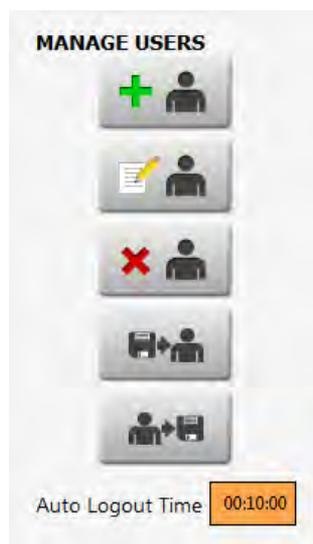

Figure 4-6 Auto Logout Time
3. Touch the **Auto Logout Time** field and enter the timeout value. Refer to Figure 4-6.